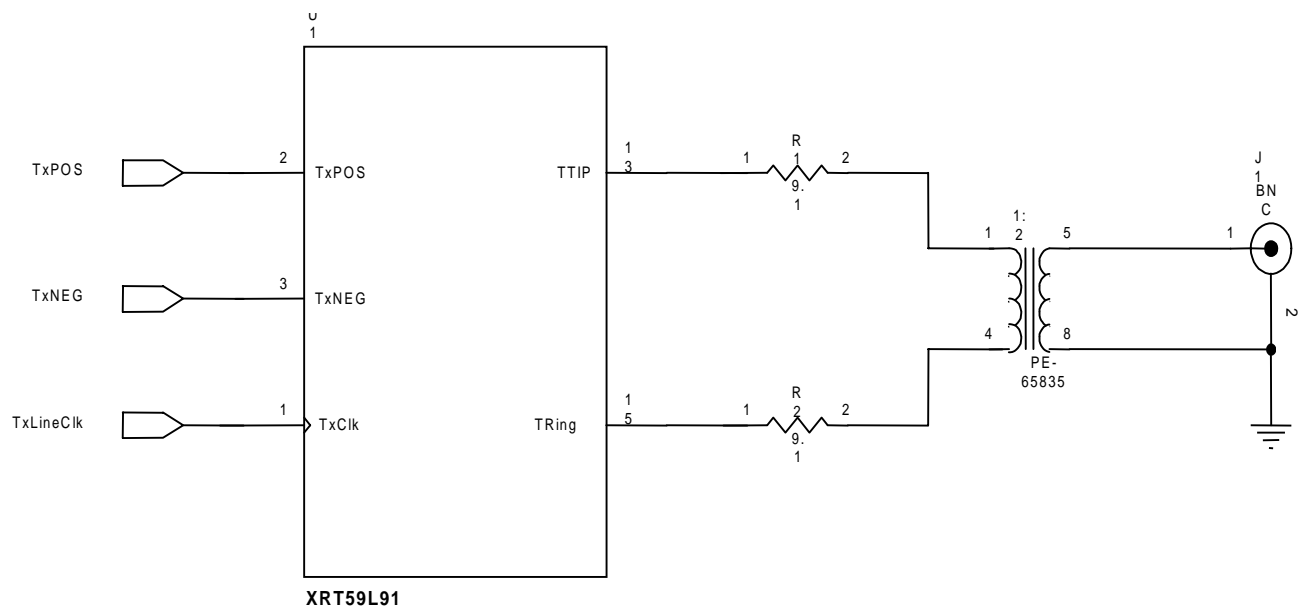

Figure 5. Illustration of how to interface the Transmit Section of the XRT59L91 device to the Line (for “75 Ω ” Applications)
In both applications (e.g., 75 Ω or 120 Ω), the user is advised to interface the Transmitter to the Line, in the manner as depicted in Figures 5 and 6, respectively.
1. Figures 5 and 6 indicate that for both “75w” and “120w” applications, the user should connect a 9.1w resistor, in series, between the TTIP/TRing outputs and the transformers.
2. Figure 5 and 6 indicate that the user should a “1:2 STEP-UP” Transformer.